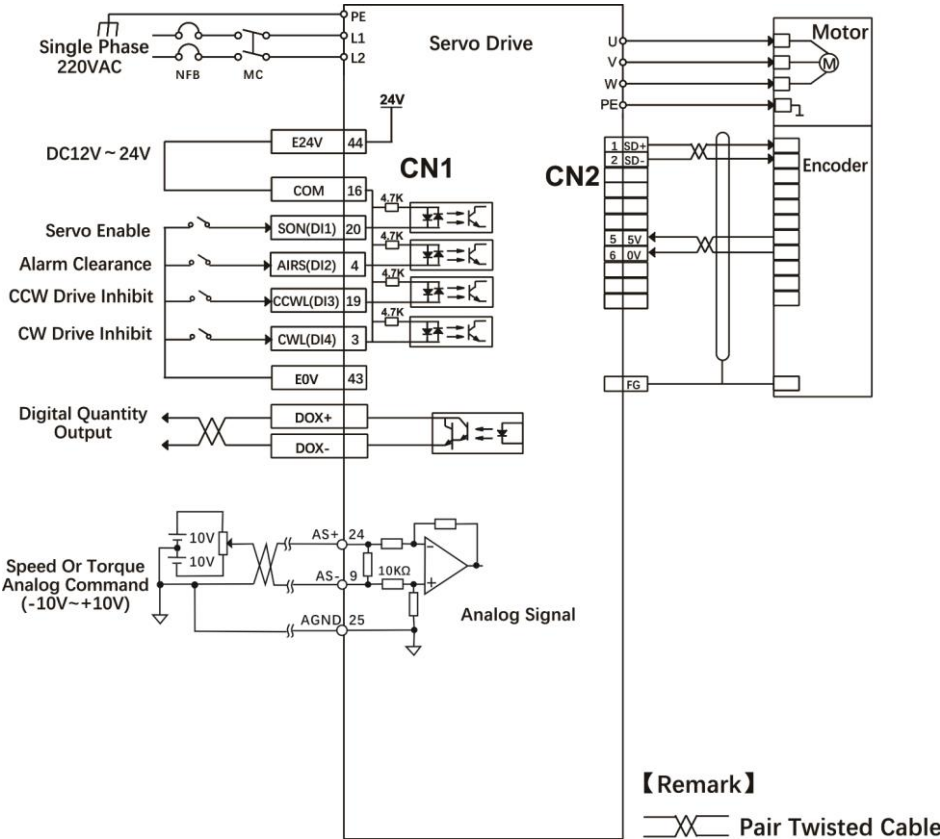

Fig.5-4 Speed Mode Wiring
- 3) To connect the required DI/DO signals in CN1 terminal, such as servo enable, alarm clearance, positioning completion signal, etc referring Fig.5-4.